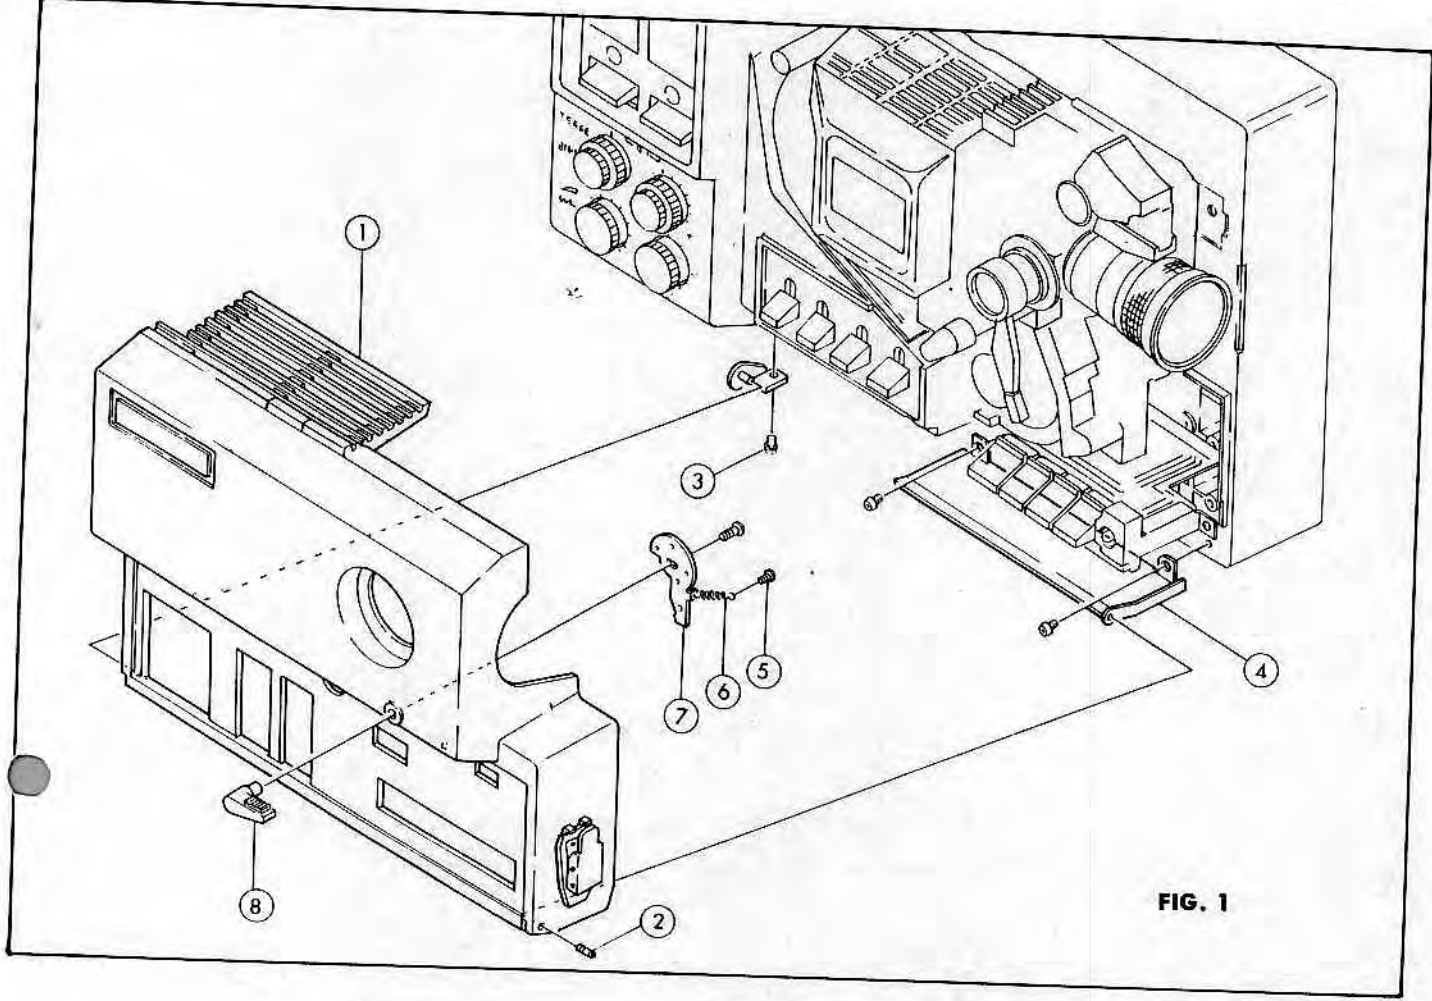

FIG. 1
TROUBLESHOOTING: (Refer to Fig. 1)
1. Unscrew the (2). Loosen the (3) and remove the (1).
2. Go on with disassembly works, referring to Fig. 1.